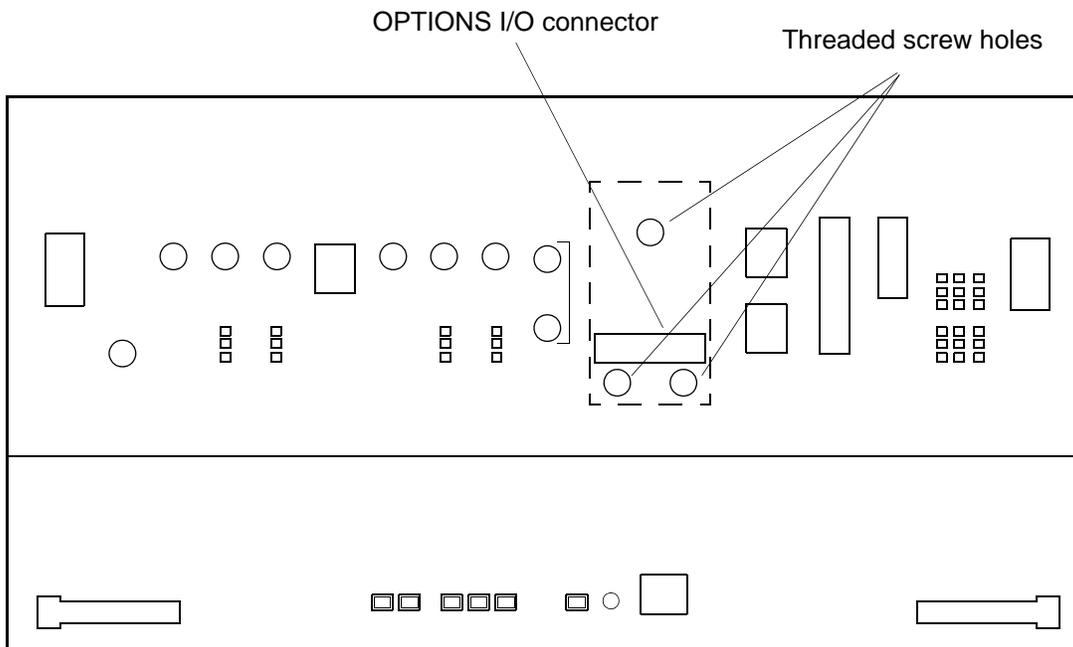

Figure 3-13 Options I/O Connector
2. Plug the module into the OPTIONS I/O connector on the connector panel (refer to Figure 3-13).